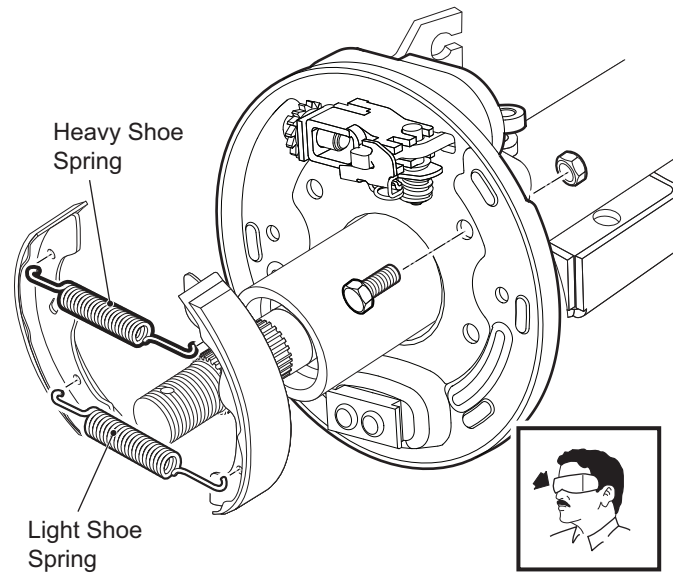

Figure 17 Orientation of Brake Shoe Springs
10. Inspect the brake shoe springs. Ensure springs are not broken or damaged and are correctly installed. The springs must be inserted with the light spring at the bottom. The long hook is installed down through the rear brake shoe. The heavier top spring is installed with the spring hooks facing up. The heavy top spring is installed with both spring hooks installed down through the brake shoes (Figure 17).